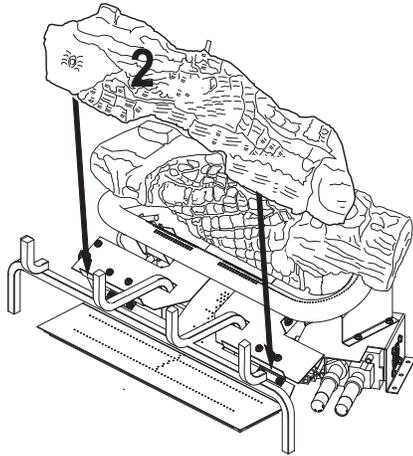

Figure 23 - Installing Log # 2
2. Place the middle log (#2) in front of the U-burner and against the edges of the plate as shown in **Figure 23**.